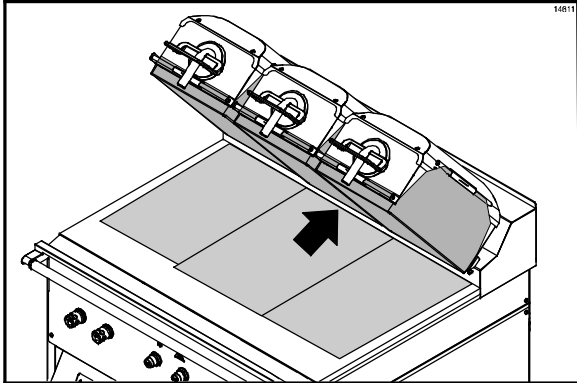

Figure 75
- Align the back edge of the third lower release sheet with the back splash and middle of the grill. The release sheet will overlap the edge of the other two release sheets. (See Figure 75.)